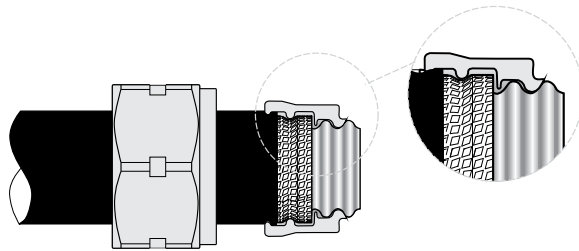

Fig. 4-20
STEP 3 INSTALL NUT AND BUSHINGS (FIG. 4-20)